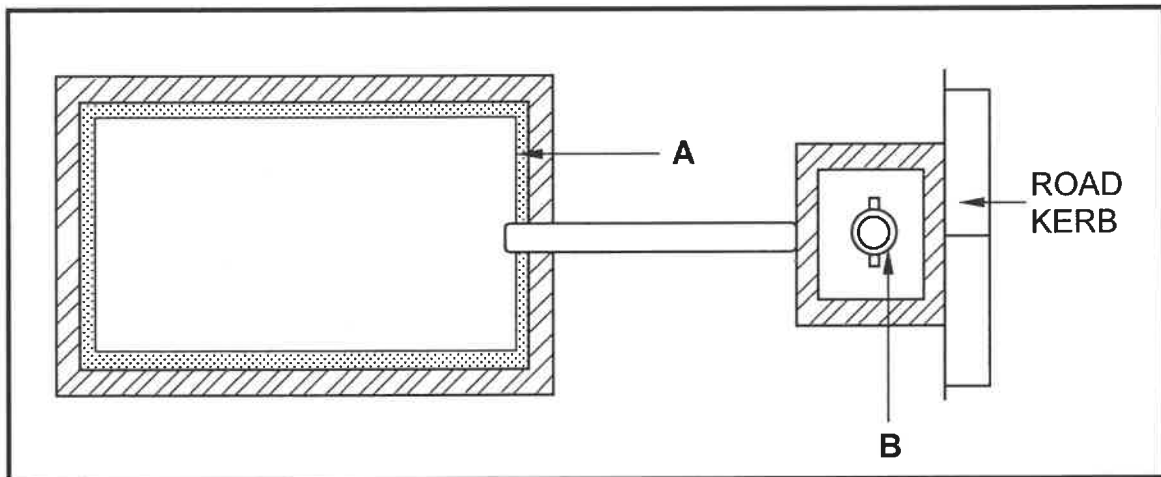

FIGURE 6.4
6.4 FIGURE 6.4 below shows a horizontal sectional view of a vacuum tank.